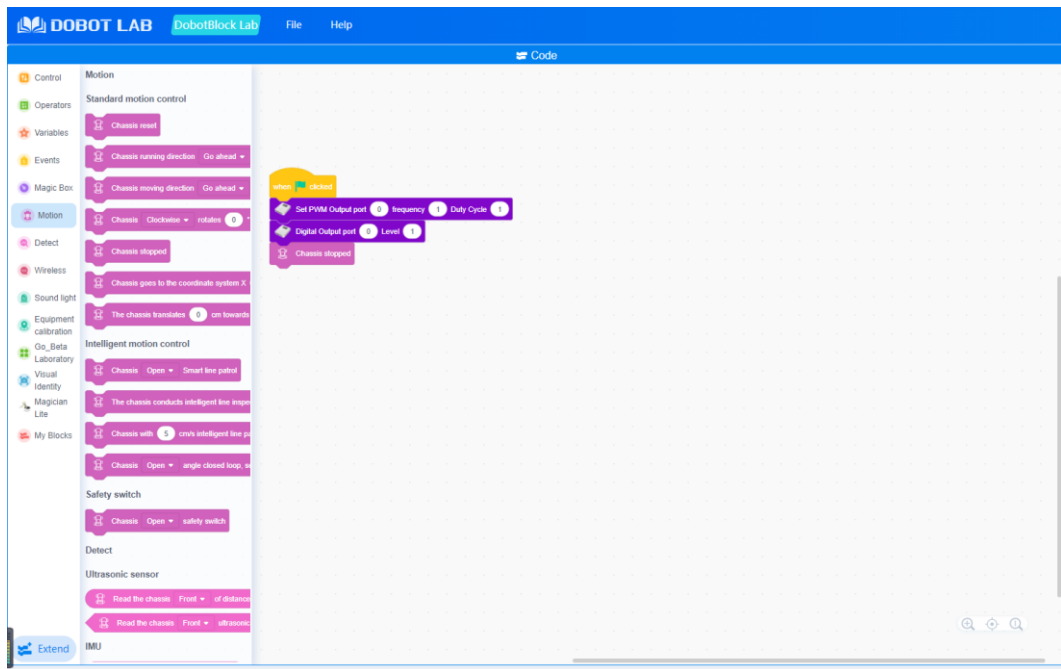

Figure 4.20 Blockly programming
Step 6 After connecting Magician Go and DobotLab, you can program on block area, as shown in Figure 4.20.